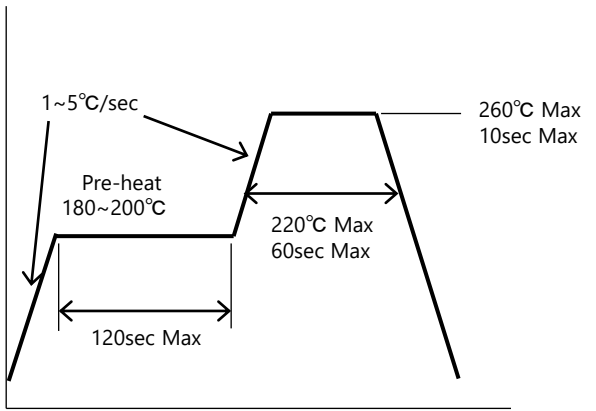

Figure 8. Recommended Reflow Soldering Condition (Lead-free Solder)
2. Nichia recommends using the reflow soldering conditions detailed in Figure 8 to the left; use the recommended reflow conditions specified by the manufacturer of the solder paste being used if it works better for the chosen application.